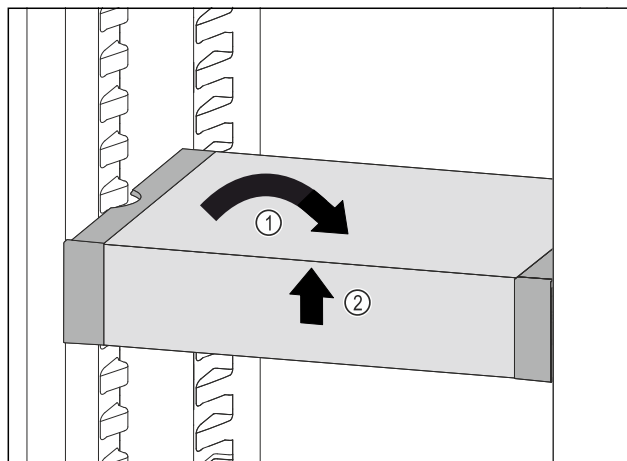

Fig. 93
- Set VarioSafe straight. Fig. 93 (1)
- Lift VarioSafe at the front. Fig. 93 (2)